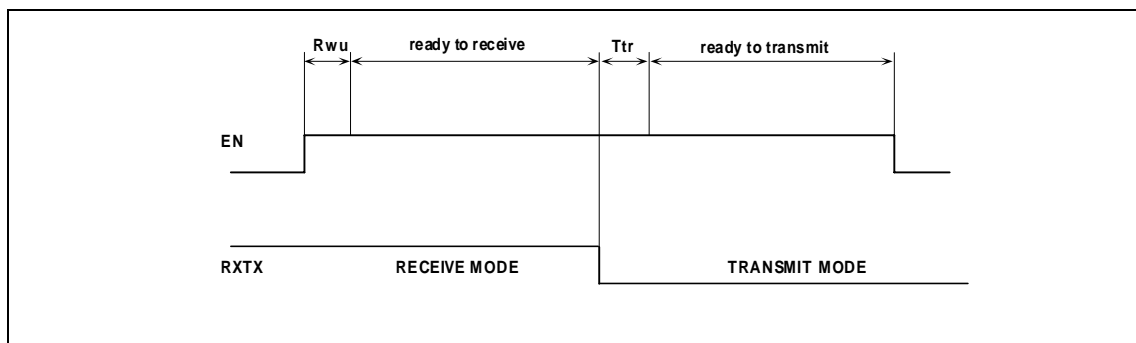

Figure 4: timing diagram for RXTX and EN control pins
RXTX (receive/transmit) and EN (chip enable) are activated when the control bit (A13) is set to zero. In this mode, the XE1201 can be switched on, switched off and set to the transmit or receive mode with pin 1 (EN) and 15 (RXTX) as explained in table 11 and figure 4.